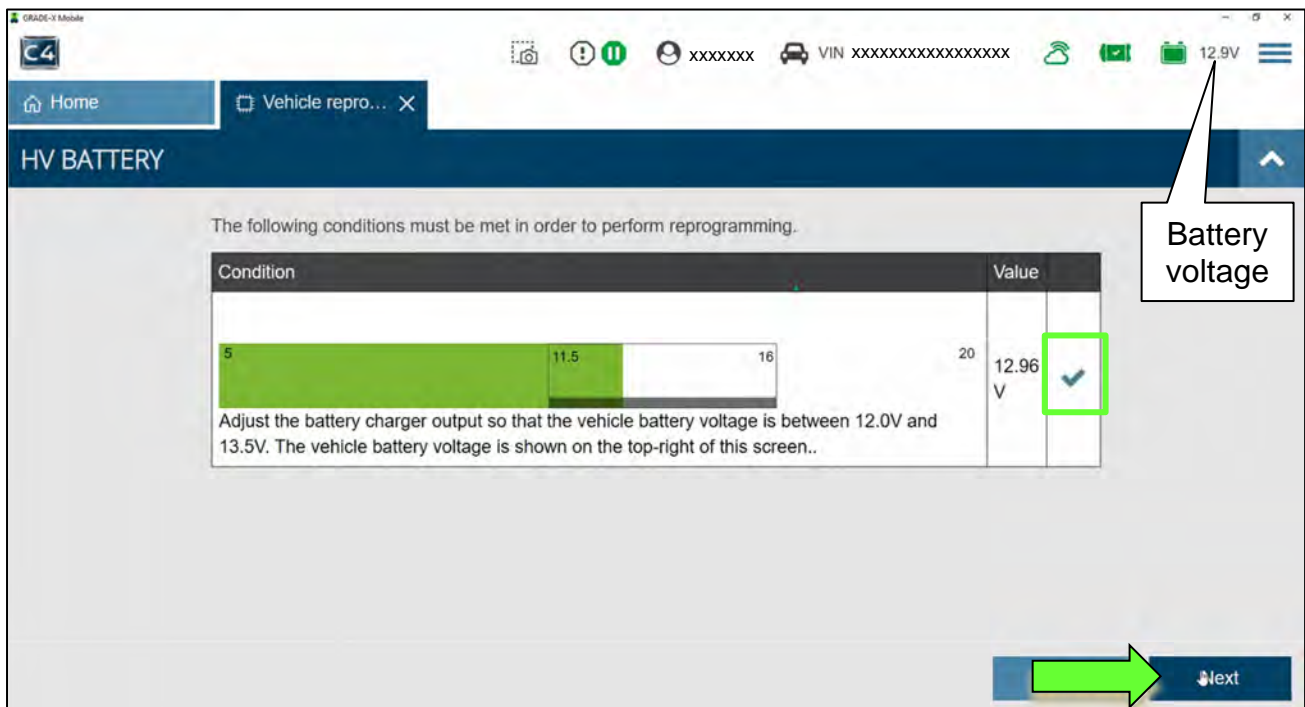

Figure 21
40. When 12V, or greater, is displayed in the "Value" field (Figure 21) and the green check mark appears, select Next.